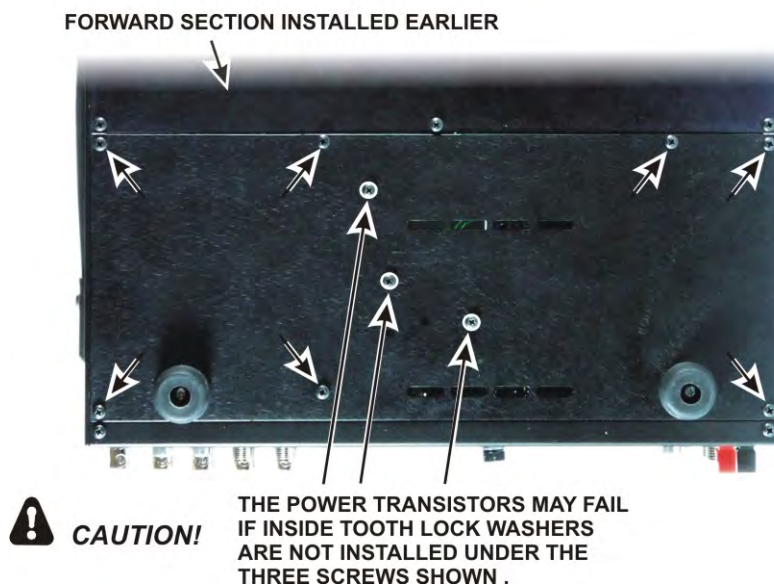

Figure 93. Checking Power Transistor Mounting Hardware.
- ☐ Install the rear bottom cover section as follows (see Figure 93):
- Start three 4-/40 1/4" (6.4 mm) black pan head screws (SS) into the transistors through the holes near the center with a #4 inside tooth lock washer under each screw head. Do not tighten the screws yet.
- Start seven 4-40 3/16" (4.8 mm) black pan head screws (SS) into the remaining holes. Do not use washers.
- ☐ Inspect the bottom cover screws to ensure you have inside tooth lock washers under the three screws shown in Figure 93. **Be sure all three screws are tight.**